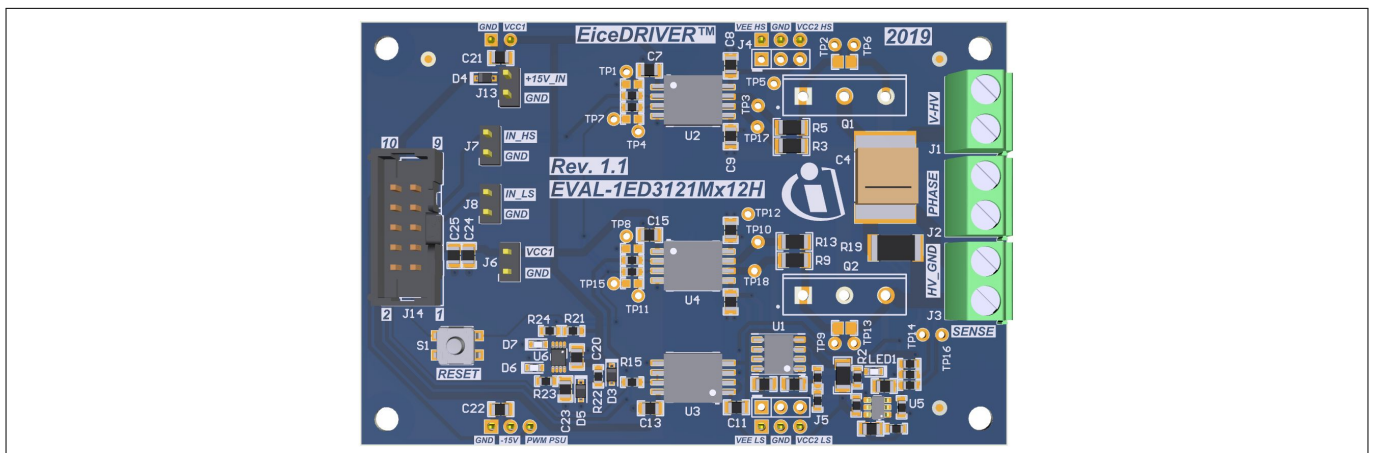

Figure 1 EVAL-1ED3121Mx12H top view
- Evaluation board in half-bridge configuration with two gate driver ICs to drive power switches such as IGBTs and SiC MOSFETs. The switch type can be freely chosen as seen in Figure 1